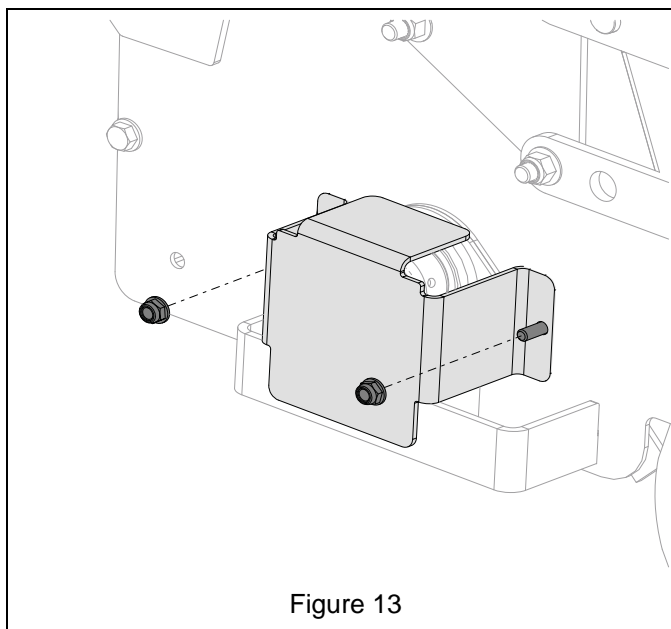

Figure 13
5. Secure right end cover with hardware removed earlier. See Figure 13.